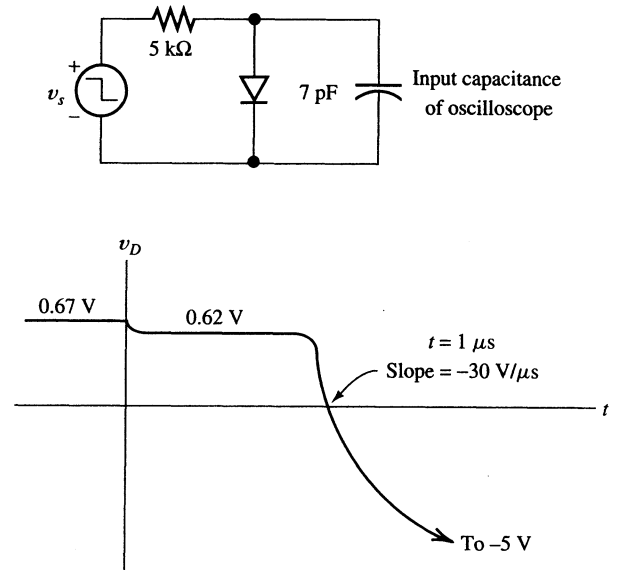

Figure P3.90
3.90. Consider the circuit shown in Figure P3.90. Prior to $t = 0$, the source voltage is +5 V. At $t = 0$, it switches